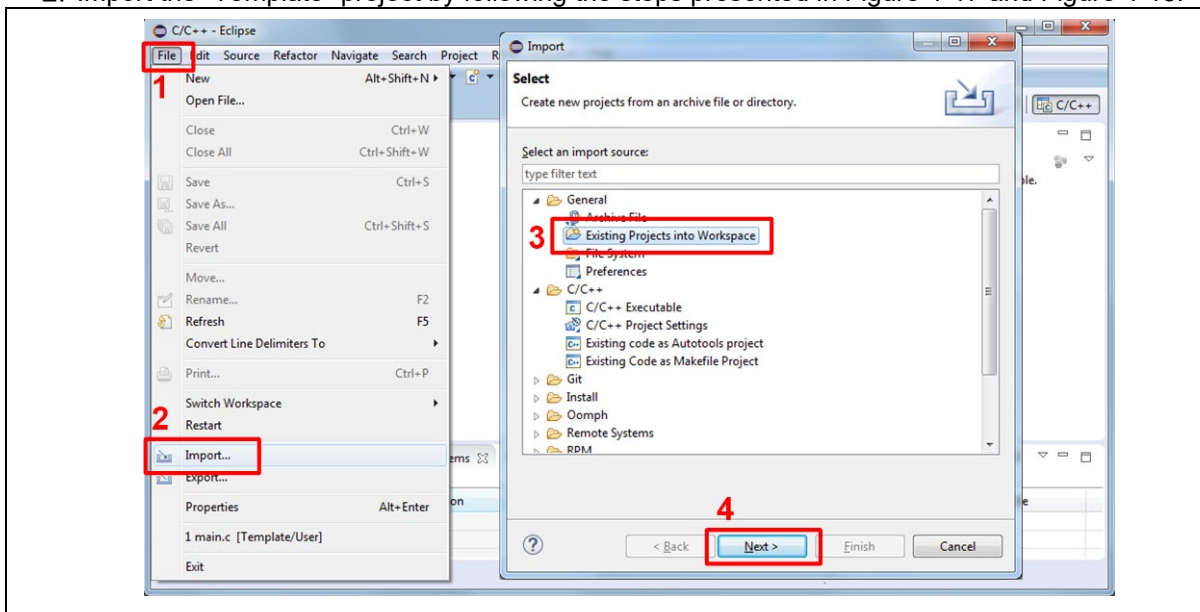
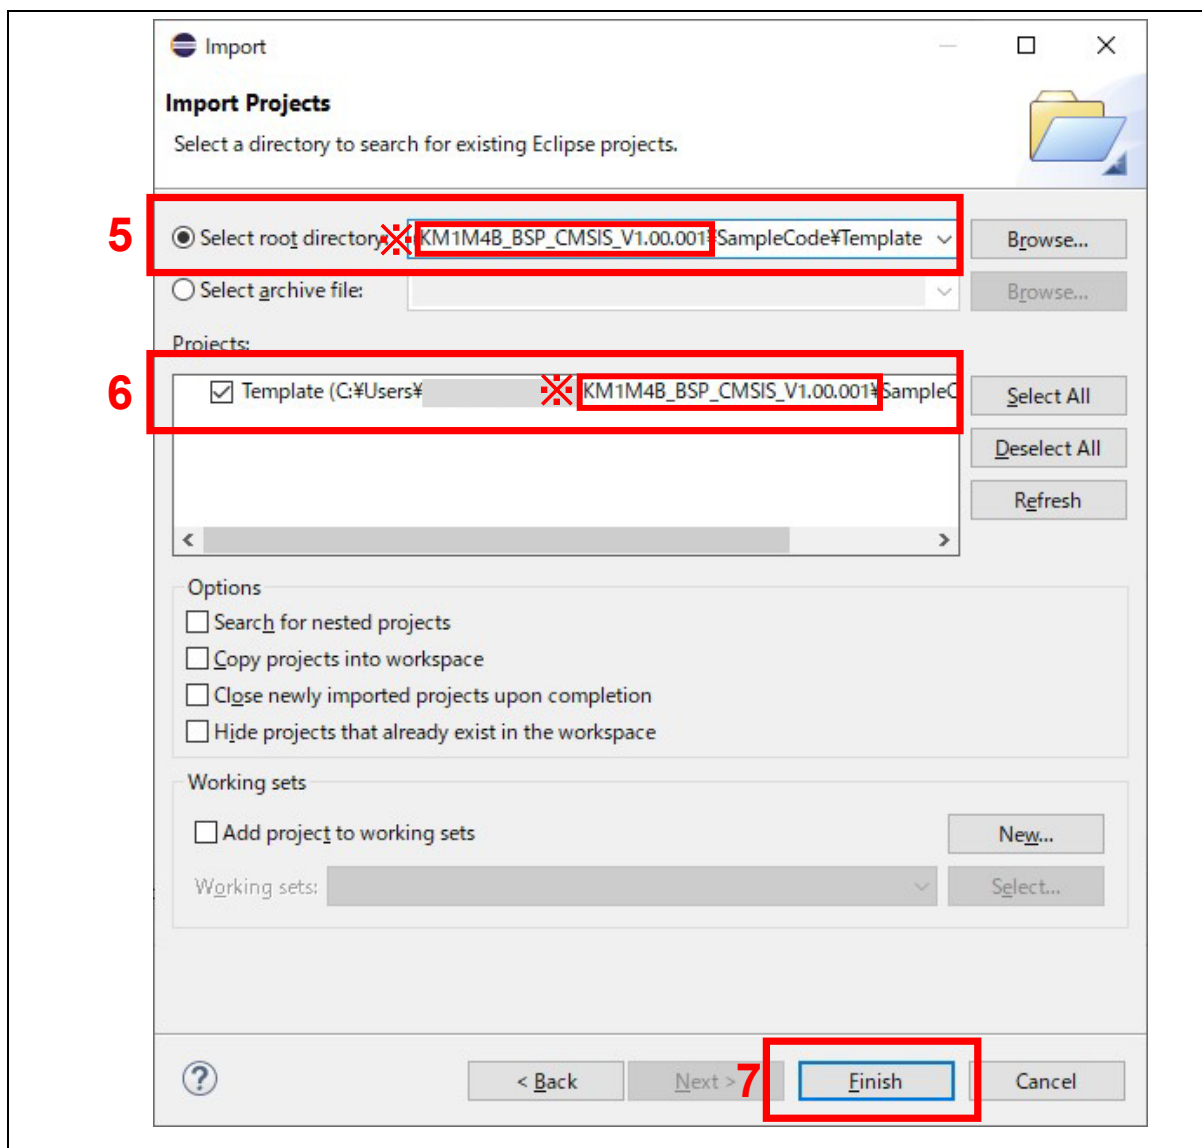

Figure 4-17 Import the Project in NuEclipse
Figure 4-18 Import Projects Windows
2. Import the "Template" project by following the steps presented in Figure 4-17 and Figure 4-18.